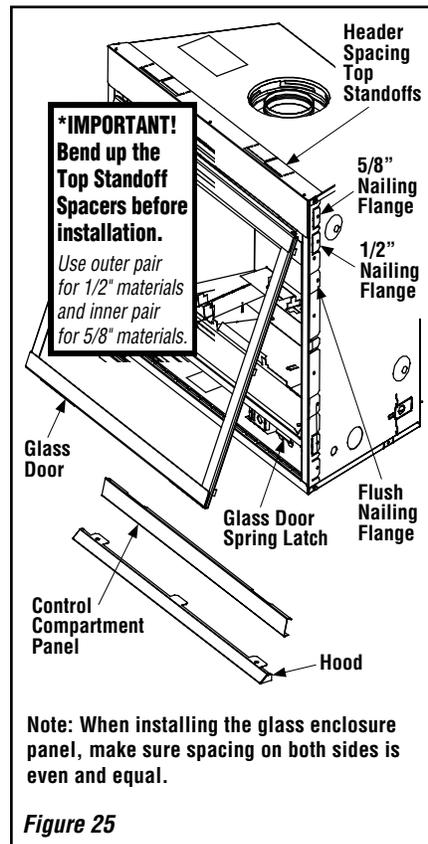

Figure 25
1. Refer to **Figure 25**. Position the glass enclosure panel in front of the firebox opening, with the bottom of the enclosure panel held away from the fireplace. Hook the top flange of the enclosure panel frame over the top of the firebox frame.
1. Refer to **Figure 25**. To access the spring latches securing the front glass enclosure panel, open the lower control compartment door by lifting and pulling the bottom panel forward.
- 4 - Refer to **Figure 25 on Page 20**. Open both latches under the firebox floor securing the glass enclosure panel. Remove the panel by tilting it outward at the bottom and lifting it up. Set aside the panel, taking care to protect it from damage.